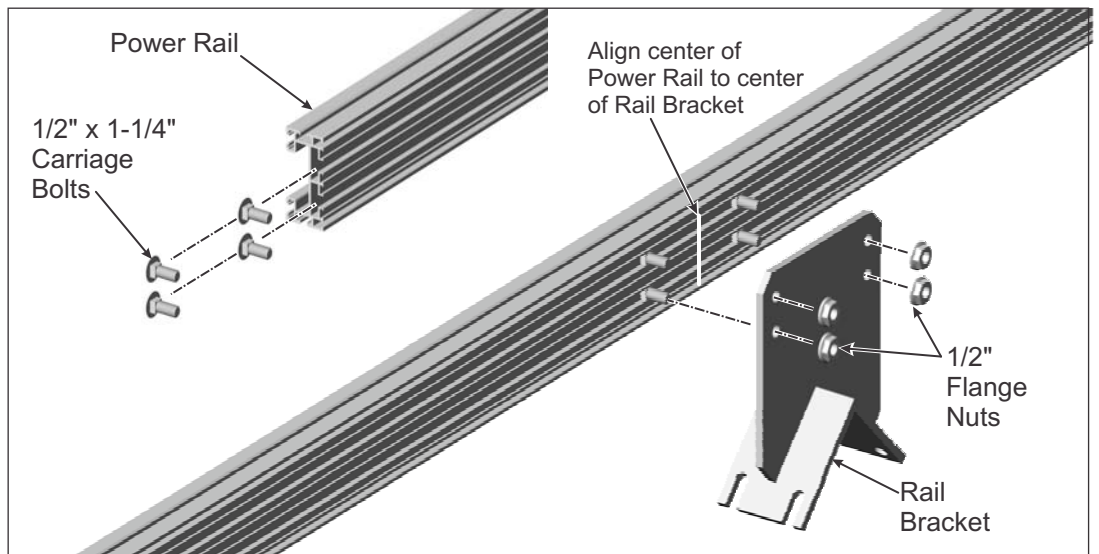

Figure 3-2 Assembly of the Rail Set Assemblies
- B. Insert four 1/2" x 1-1/4" carriage bolts into the Power Rail channel. Slide them towards the center mark of the rail. (See Figure 3-2)